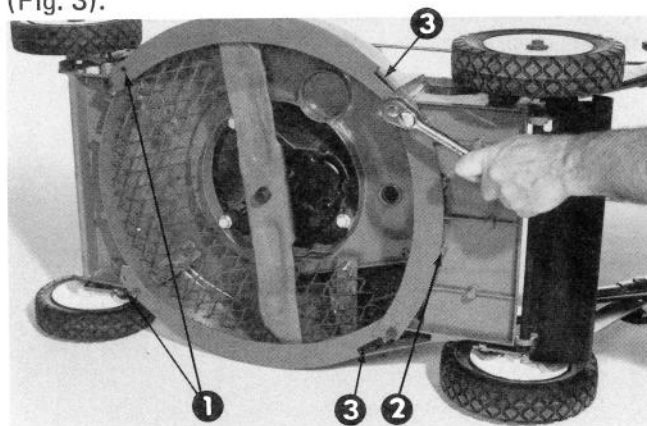

Figure 3
3. Align outer baffles (slots to rear over housing boss), and front brackets with mounting holes in housing and secure with 1/4 - 20 x 1/2 in. screws (Fig. 3).
4. Align rear baffle with appropriate holes and secure with 1/4 - 20 x 1/2 in. screws (Fig. 3).